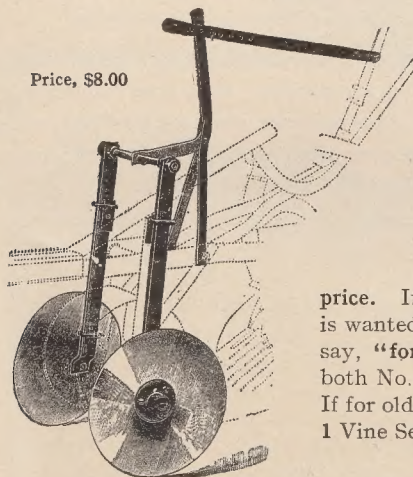

**Fig. 380**
**Vine separator. Fig. 380.** With this attachment the vines are delivered at one side and the potatoes in the middle or at the opposite side. Goes in place of upper section of
Same vine separator is furnished as for No. 150 (Fig. 380, page 3) and should be ordered as No. 2.